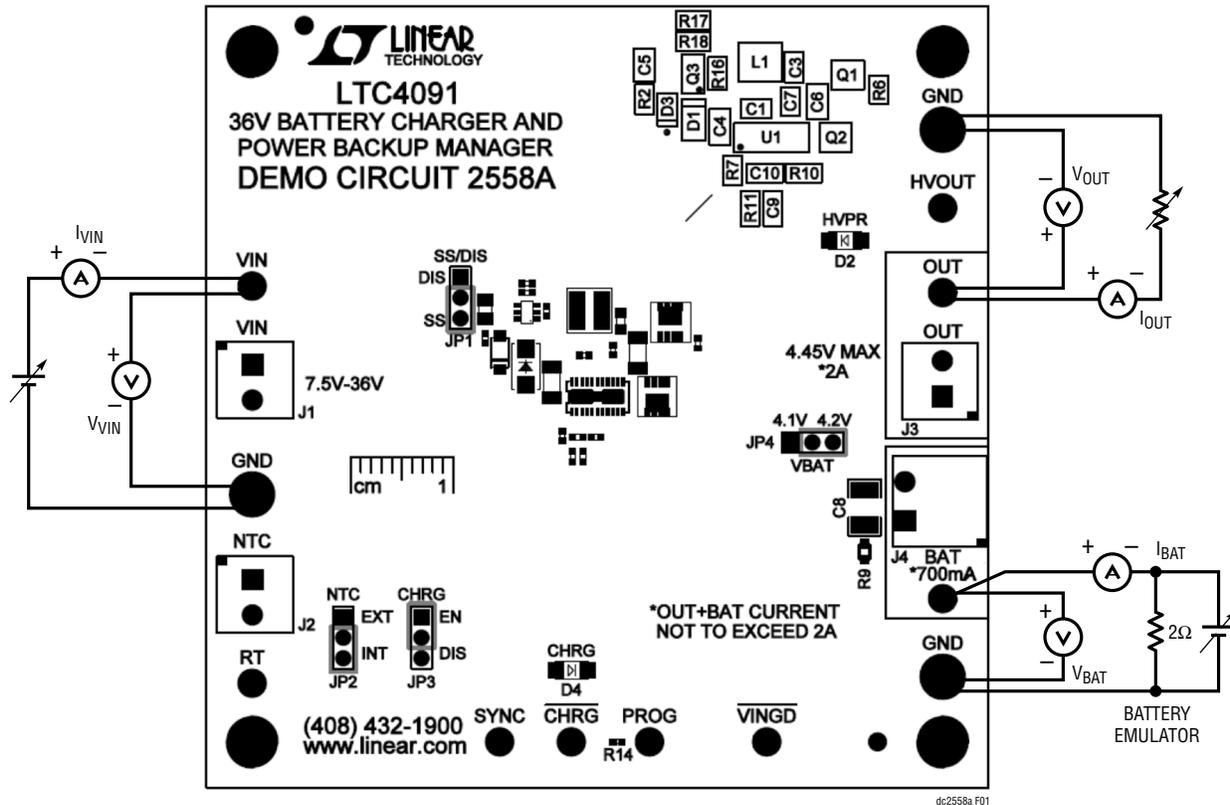

Figure 1. Proper Test Equipment Setup
Refer to Figure 1 for proper measurement equipment setup, and follow the procedure below:
1. With power off, connect the input power supplies, meters and output load as shown in Figure 1. For the  $V_{IN}$  input use a 0V-50V, 3A adjustable power supply. To emulate the cell, use a 0V-5V adjustable power supply that can deliver at least 3A in parallel with a  $2\Omega$ , 10W power resistor. Attach a 0A-2A adjustable load to the system output (OUT).